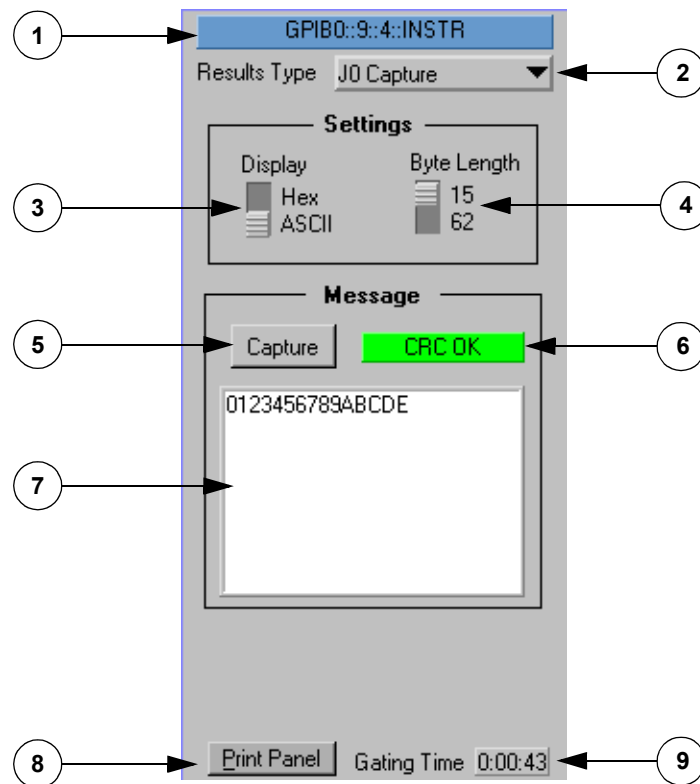

Figure 3-29. J0 Capture Results
- J0 Capture, see Figure 3-29.